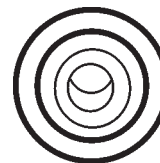

**Figure 41. Voltage Selector Switch**
4. Place the voltage selector switch in the desired voltage position (Figure 41).